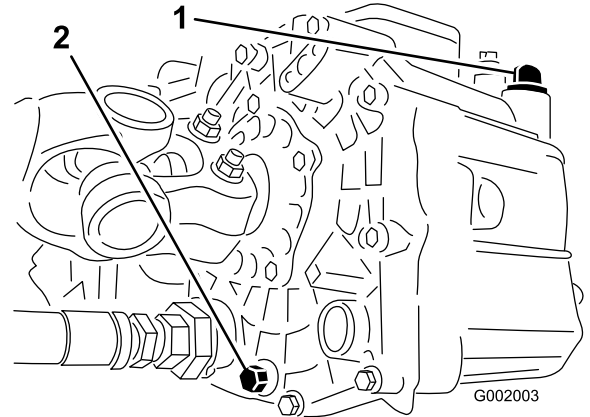

Figure 39
3. Remove the drain plug from the side of the reservoir, and let the hydraulic fluid flow into the drain pan (Figure 39).